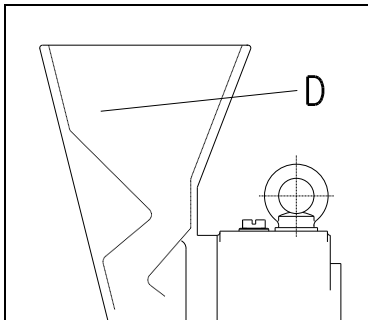

Fig. 9
- Slowly pour product into the feeder hopper **D**. **Fig. 9**
A baffle incorporated into the feeder hopper **D** keeps product from being ejected from the unit. **Fig. 9**